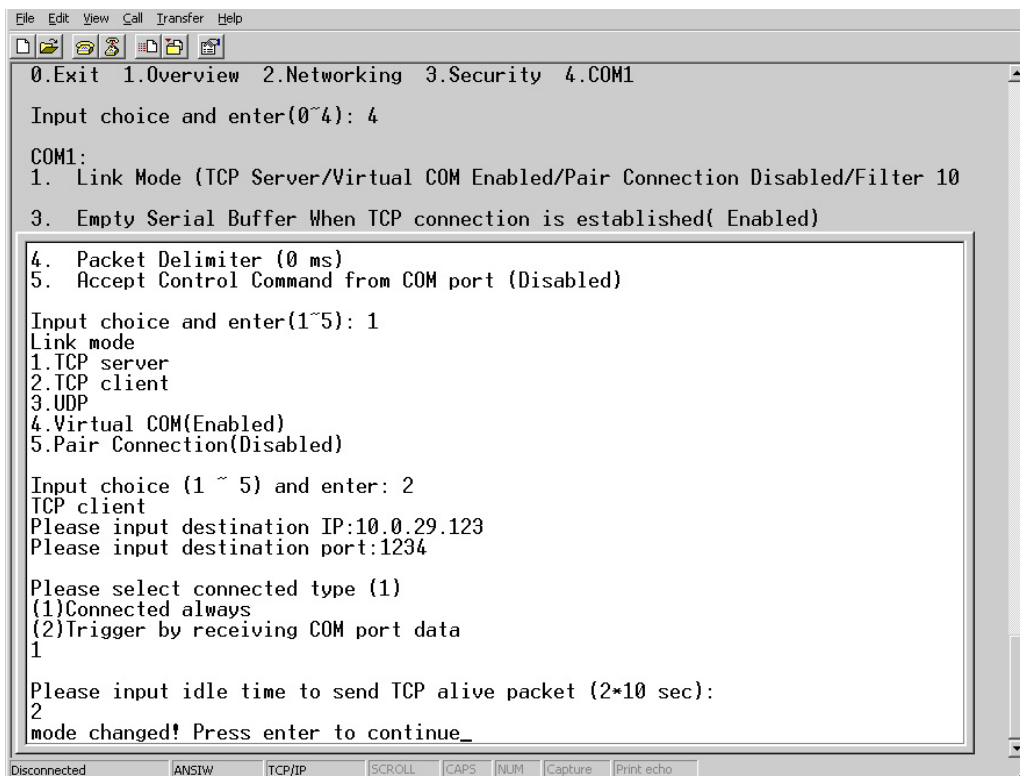

Figure 3.11 Link Mode-TCP client setup
- Type **2** in the “**Input choice (1~5) and enter :**”(Figure 3.11)